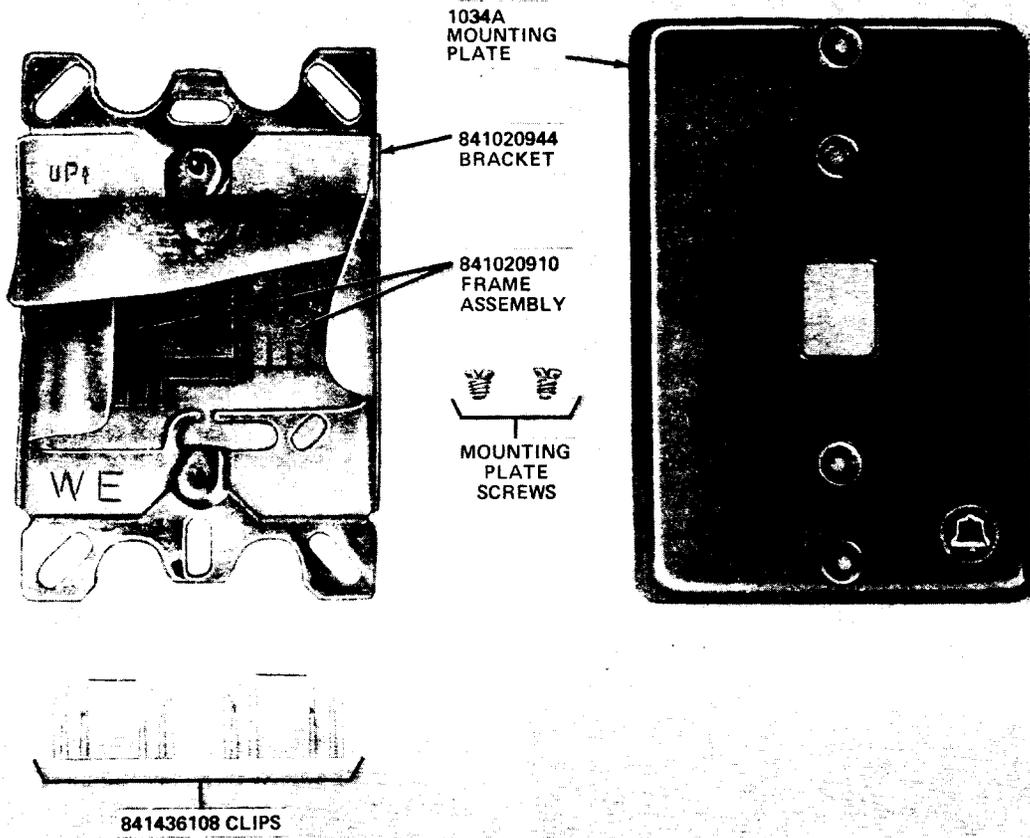

Fig. 19—630B Connecting Block
3.16 630B Connecting Block: Mount the 630B connecting block (Fig. 19) on a standard electrical outlet box using 841020944 bracket or on a 63-type bracket, or directly on a wall. In all cases, the block should lie flat against the wall. When installing on an underflush outlet box or plaster ring, the connecting block bracket should be tightened just enough so the assembly is tight on the wall once mounting plate is attached and tightened down. Use the two 3/16-inch No. 6 faceplate screws when mounting the block directly to a wall. Use two 5/16-inch No. 6 screws when mounting on an electrical box or 63B bracket. A 919C backboard may be installed where wall imperfection exist. Use fastener package provided with block. Depending on mounting arrangement, select proper fasteners from Table B and
install the block using holes provided in bracket (Fig. 19). Refer to paragraph 4.01 for connections.